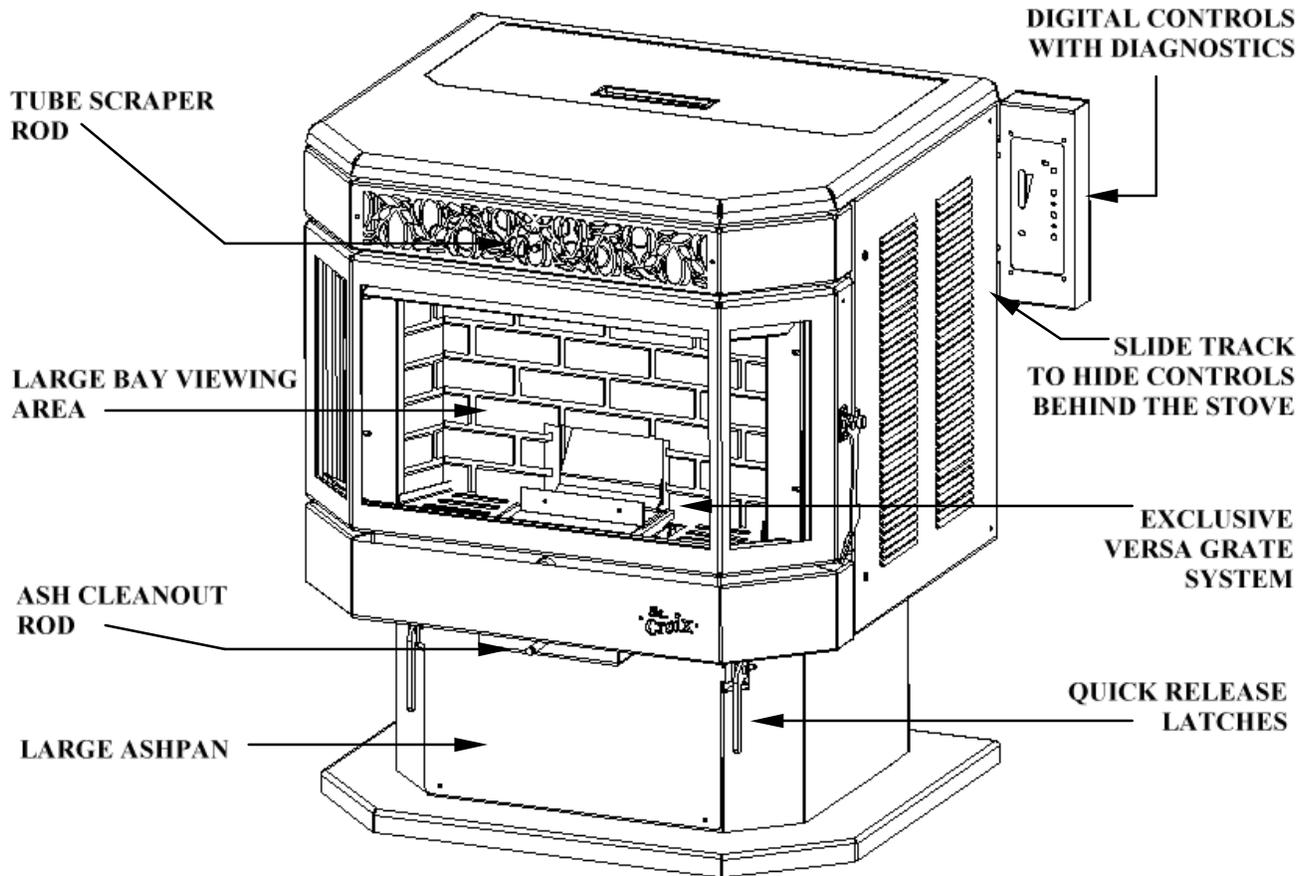

Figure 1
**CAUTION: The Ash Cleanout Rod must be pushed in to operate the stove. (See Figure 1 on page 2)**